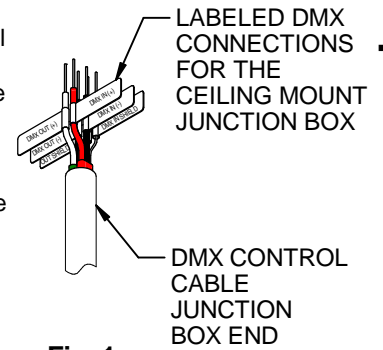

Fig. 1
1. **At the ceiling mount junction box** – after installing the power wiring and DMX control cable in the ceiling mount channel or the pendant mount/stem, make the power connections in the mounting junction box per the product installation instructions. Make the DMX control connections (**Fig. 1**) by connecting the twisted pair and shield labeled “DMX IN” to the incoming DMX control wiring, and connecting the twisted pair and shield labeled “DMX OUT” to either the outgoing DMX wiring to the next fixture in the daisy-chain, or a 120 Ohm terminating resistor (by others) if wiring the last fixture in the daisy-chain. Make sure there are no exposed or uninsulated wires and connections, and place the wiring and connections in the mounting junction box. Using an appropriate wiring separator, keep the control wiring separate from the power wiring in the ceiling mount junction box.
1. The DMX control cable and power wiring come preinstalled in the MC10LED wall mount fixture. Install the fixture and connect the power wiring as instructed by the MC10LED product installation instructions. Make the DMX control connections (**Fig. 1**) by connecting the twisted pair and shield labeled “DMX IN” to the incoming DMX control wiring, and connecting the twisted pair and shield labeled “DMX OUT” to either the outgoing DMX wiring to the next fixture in the daisy-chain, or a 120 Ohm terminating resistor (by others) if wiring the last fixture in the daisy-chain. Make sure there are no exposed or uninsulated wires and connections, and place the wiring and connections in the wall mounting junction box. Using an appropriate wiring separator, keep the control wiring separate from the power wiring in the wall mount junction box.